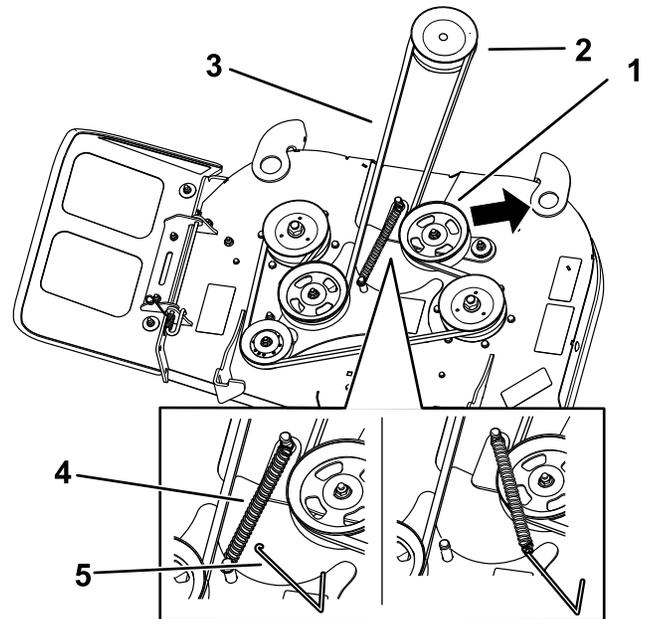
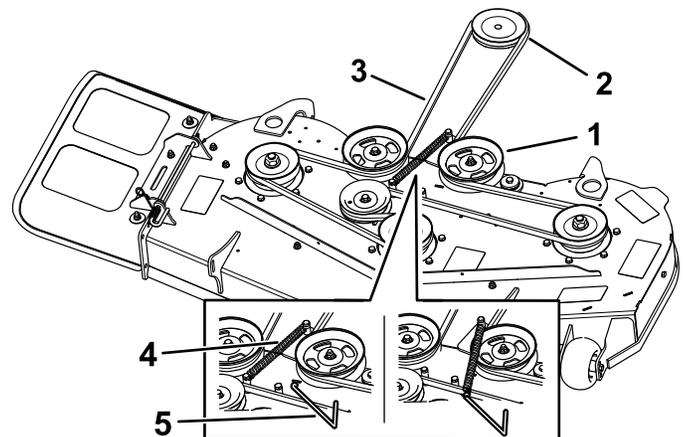

Figure 52
Figure 53
hook to remove tension on the idler pulley, and roll the belt off the pulleys (Figure 52 or Figure 53).
6. Route the new belt around the clutch pulley and mower pulleys (Figure 52 or Figure 53).
7. Install the idler spring to the deck hook (Figure 52 or Figure 53).